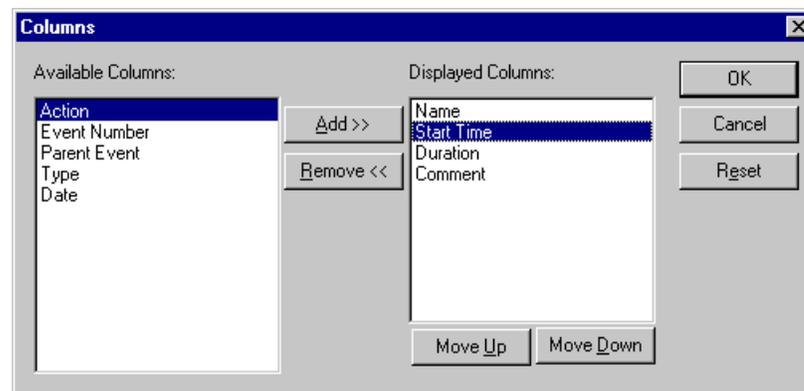

Figure 132. Columns dialog box
1. Choose **View | Columns** and Columns dialog box (Figure 132).